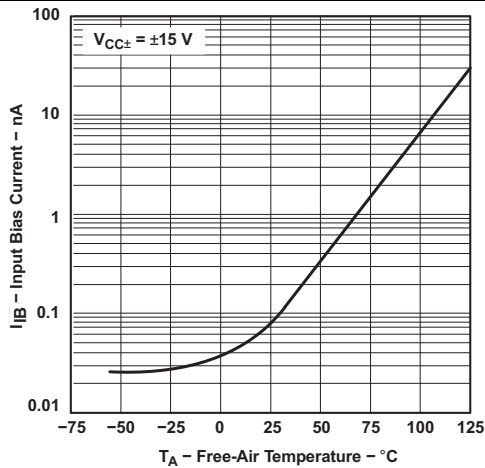

Figure 1. Input Bias Current vs Free-Air Temperature
- (1) All characteristics are measured under open-loop conditions with zero common-mode voltage, unless otherwise specified.
(3) Input bias currents of an FET-input operational amplifier are normal junction reverse currents, which are temperature sensitive, as shown in Figure 1. Pulse techniques must be used that maintain the junction temperature as close to the ambient temperature as possible.
- (1) Input bias currents of an FET-input operational amplifier are normal junction reverse currents, which are temperature sensitive, as shown in Figure 1. Pulse techniques that maintain the junction temperature as close to the ambient temperature as possible must be used.
- (2) All characteristics are measured under open-loop conditions with zero common-mode voltage, unless otherwise specified. Full range is $T_A = -55^\circ\text{C}$ to $+125^\circ\text{C}$.
- (2) All characteristics are measured under open-loop conditions with zero common-mode voltage, unless otherwise specified. Full range is $T_A = -55^\circ\text{C to } +125^\circ\text{C}$.